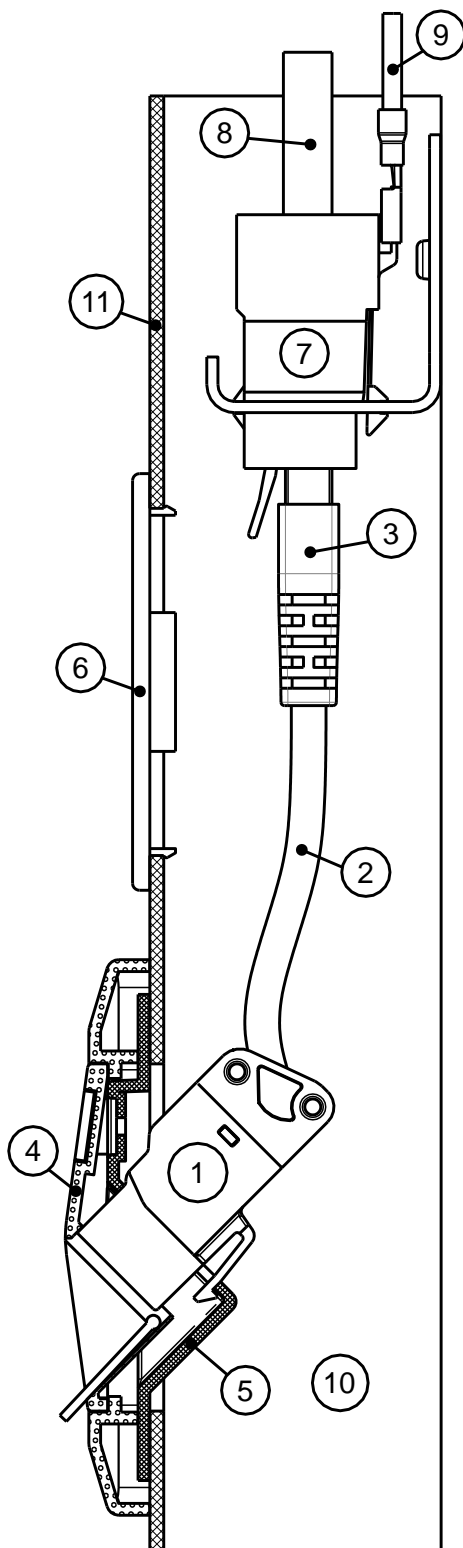

Figure 1. EN-60 assembly within a cable duct
Figure 1 shows a typical assembly within a cable duct (10), with cover (11). The Network Isolator EN-60KDS (1) is shown installed in a Keystone-compatible wall outlet, which usually consists of a support frame (5) and a plastic front panel (4). The RJ45 plug (3) of the Network Isolator is to be inserted into a RJ45 jack module termination (7) at the end of the permanently installed data cable (8). When retrofitting the Network Isolator EN 60KDS (1) into network channels, the existing RJ45 jack module from the wall outlet can be shifted back within the cable duct (10), and used as the connection to the Network Isolator.
The transmission properties of permanent network installations fitted with EN-60KDS Network Isolators can be checked with cable certification devices which are suitable for testing electrically isolated cable sections. To be able to conduct such an inspection, the test equipment must be configured in an AC wire-map mode. The entire cable route, including the Network Isolator, can be tested to EIA/TIA-568 Cat.5e or ISO 11801 Class D. Testing of the cable shielding and the conductor resistance is not possible in this mode. If however, these tests are required, or if the quality of the cable route itself needs to be tested (without the Network Isolator), then testing can be performed by bypassing the Network Isolator, and connecting directly to the RJ45 socket (7), set back within the cable duct, as indicated in Figure 1.
The length of the flexible cable stub (2) (see Figure 1 in section 4) of the EN-60KDS Network Isolator is available in selected lengths from 30 mm to 10 m (inclusive). Refer to Figure 6 in section 8.2, as well as the table in section 8.3. It is recommended that this length be kept to a minimum. When compared to a fixed installed cable, this flexible cable stub may be more susceptible to near end crosstalk (NEXT) and alien crosstalk (AXT). The flexible cable stub itself generates a small, but length-dependent amount of insertion loss (IL).